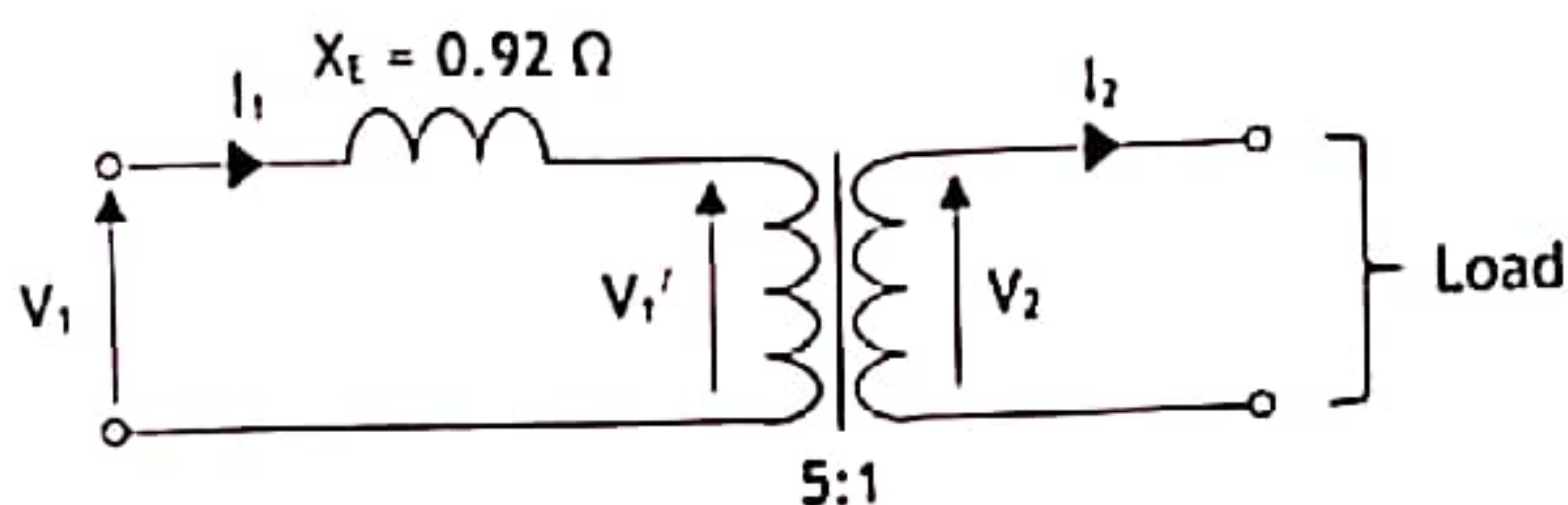

Fig Q5
- (b) Fig Q5 shows a simplified equivalent circuit for a single-phase transformer ignoring the no-load current.